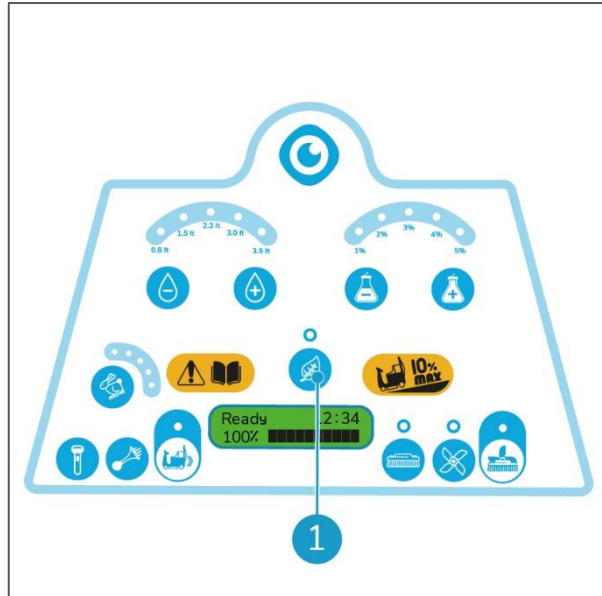

Figure 28
The ECO mode (Figure 28, pos 1) will slow down the machine as well as reduce the usage of water and solution. See section 2.1.